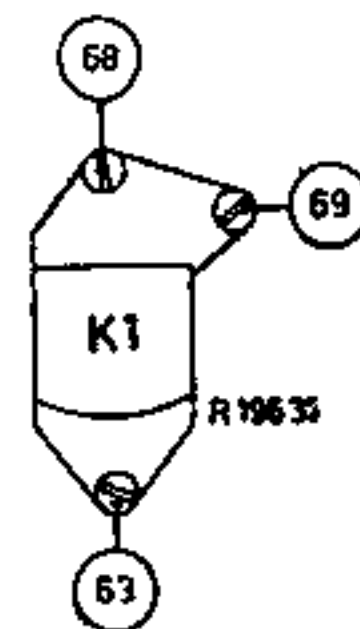

FIG. 15
(b) After the turntable heights have been adjusted the record/play-back head K1 should be adjusted by means of the screws 63, 68 and 69, so that the face of the head is parallel to the tape and the height of the head is such that the tape will run freely through the head guide plate without twisting (see Fig. 15).
- (iv) Adjust screw 69 for maximum output voltage (see Fig. 15).